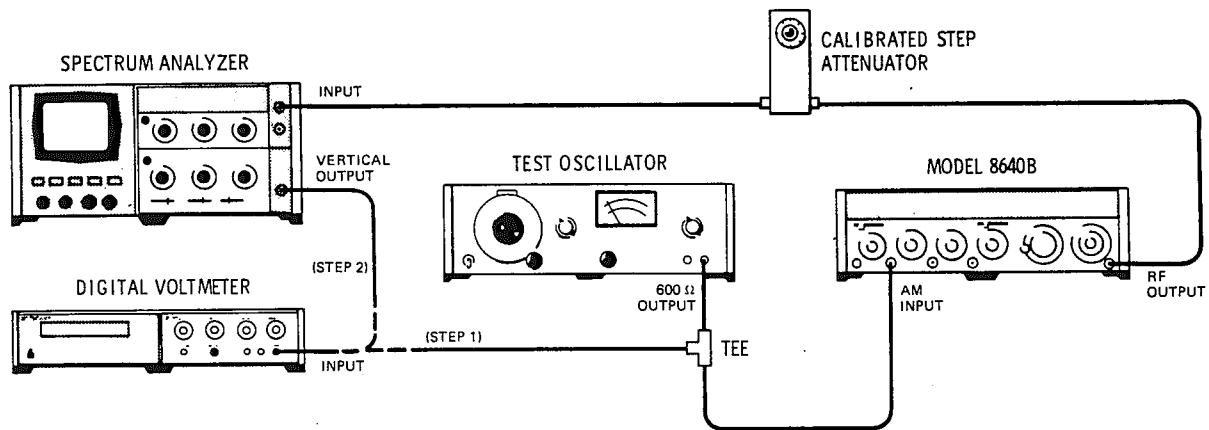

Figure 5-2. AM Sensitivity Adjustment Test Setup
1. Connect equipment as shown in Figure 5-2 after setting Signal Generator's controls as follows:
5. Rotate the pot cw so that casting setscrew lies between first and center terminals of pot (see Figure 5-2,B).